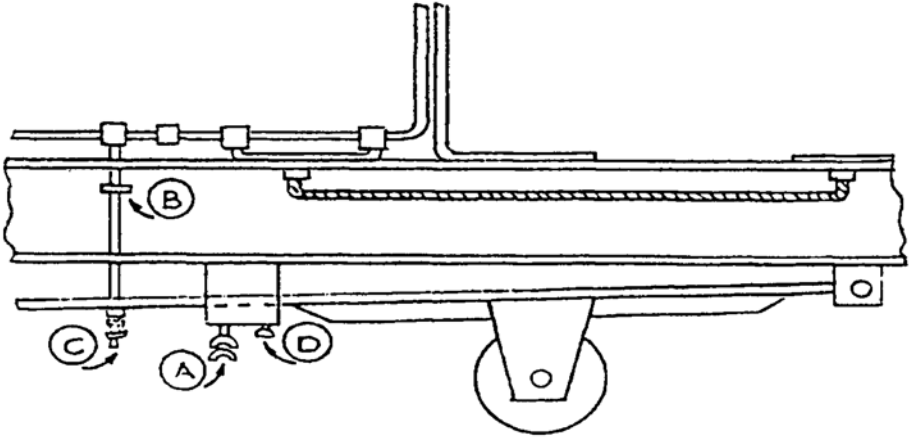

Figure 1
1. Quickly check for accuracy by hooking the spring-loaded line underneath the wheels as shown in Figure 1.